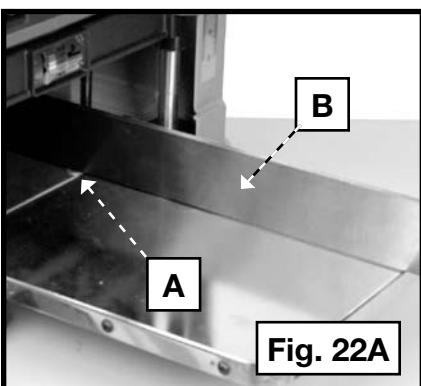

Fig. 22A
1. Place a dime (A) Fig. 22A at each end of the platen (infeed and outfeed).
2. Place a straight edge (B) across the two dimes. Extend the straight edge past the leading edge of the infeed and trailing edge of the outfeed tables.